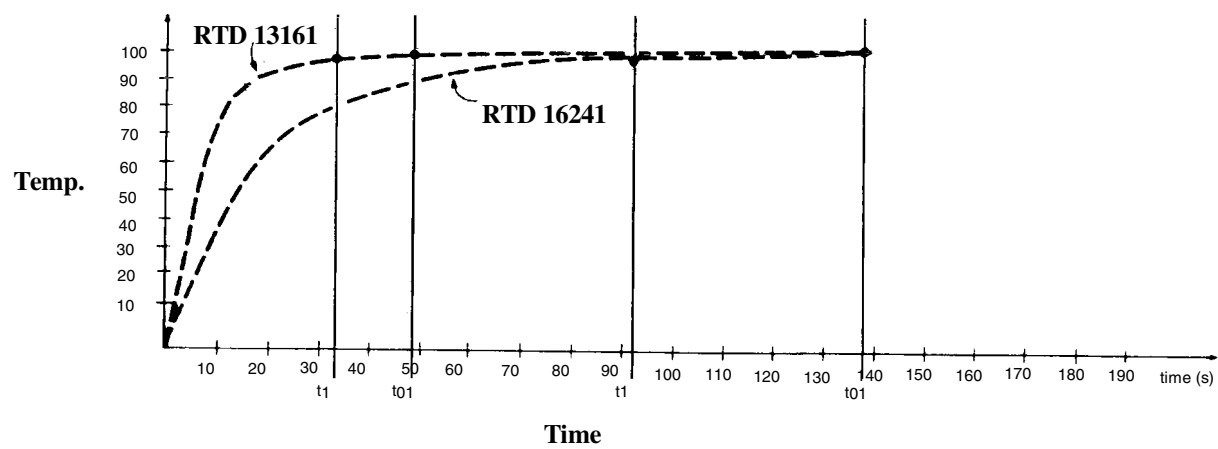

Fig. 4 - 1, Thermal Time Constant Example
The thermal time constant of a device is a measure of the time it takes for a device to approach the temperature of its environment. When a device is placed in a thermal environment, such as the T-2500E (SE) Thermal Fixture, its temperature approaches the temperature of the environment (the temperature of the air in the thermal enclosure) following an exponential curve. See example of a 1000 ohm RTD below. (See Fig. 4 - 1.)